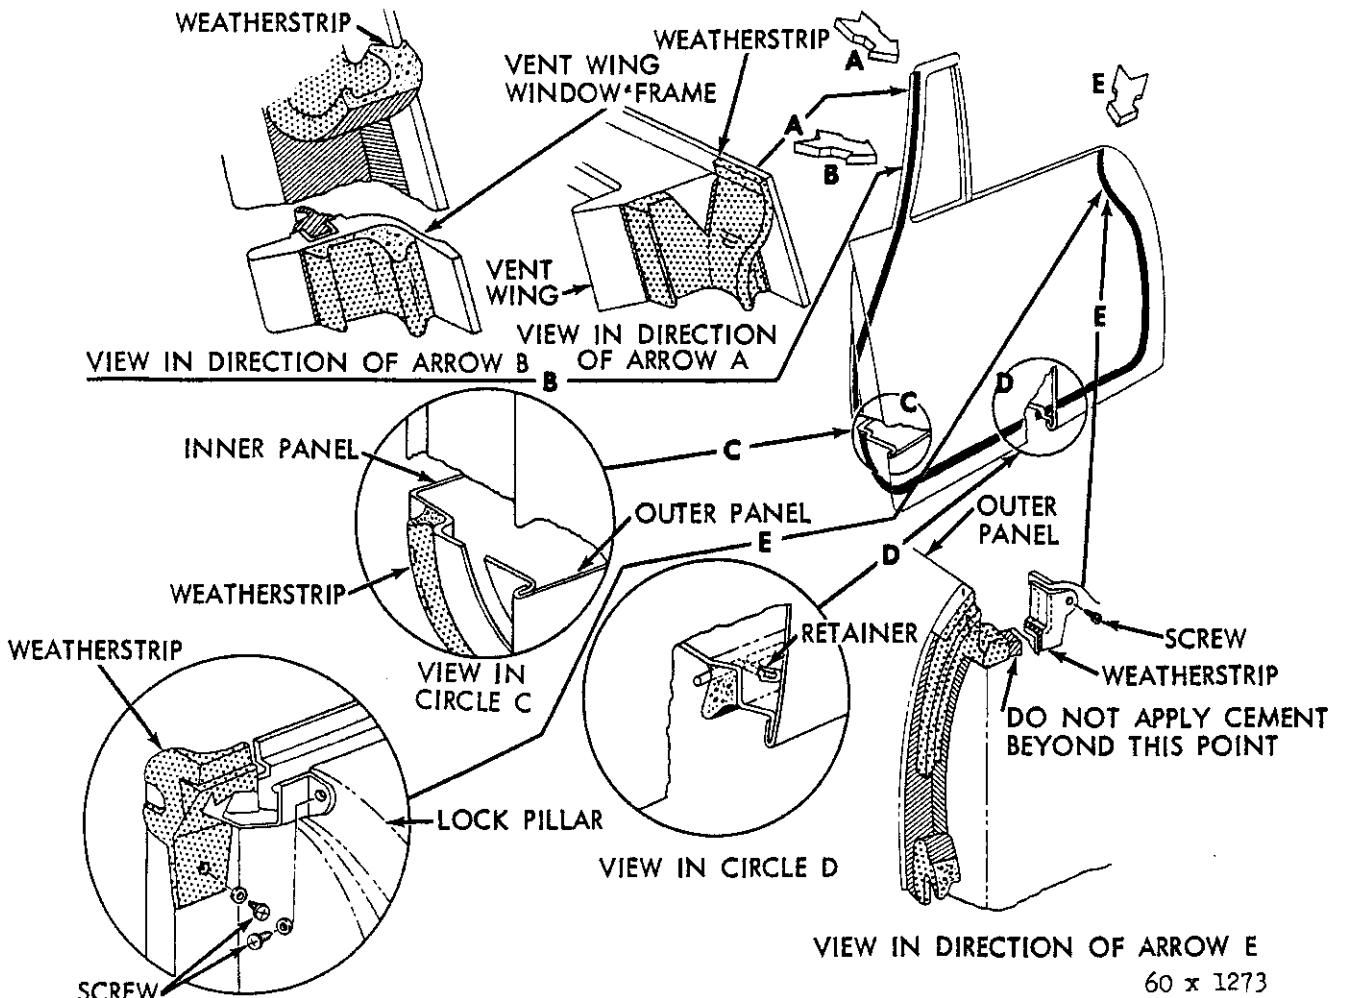

Fig. 80—Door Ventilator Wing Sealing (Hardtop Models)
**e. Front Door Vent Window (Fig. 80)**
#### h. Door and Quarter Watershield Installation (Fig. 80) —Hardtop and Convertible Models